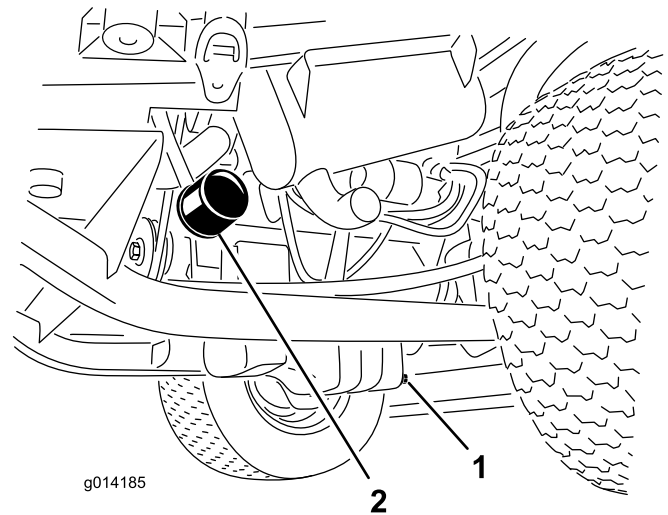

Figure 36
1. Remove the drain plug (Figure 36) and let the oil flow into a drain pan.
3. Remove the oil filter (Figure 36).